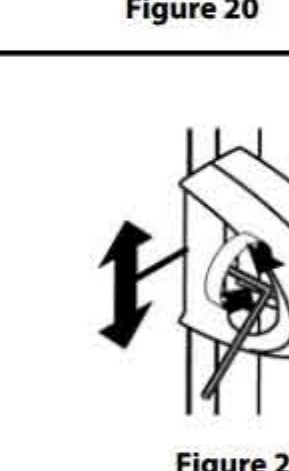

Figure 19
- Install the diverter handle. Tighten the set screw with a 4 mm Allen wrench. (See Figure 19.)